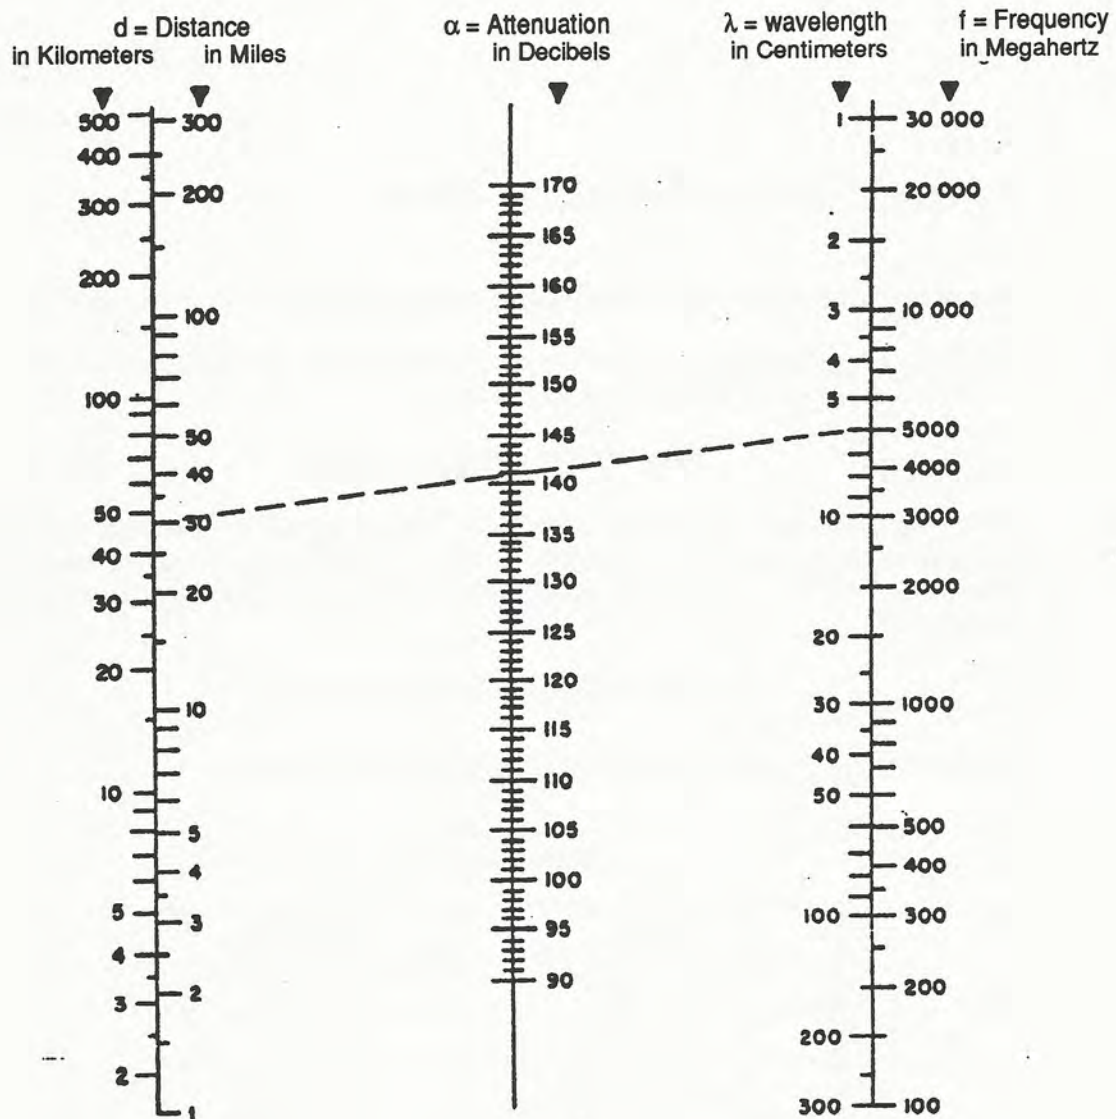

Figure A-1
- D. Line Five. Path Loss: Use a straight-edge ruler on the free-space attenuation nomograph (Figure A-1). With the right side aligned on f_0 and the left side at the path distance, read the unobstructed free-space attenuation in dB from the center scale. Enter this value on Line 5, or calculate the free-space attenuation according to formula A-4.